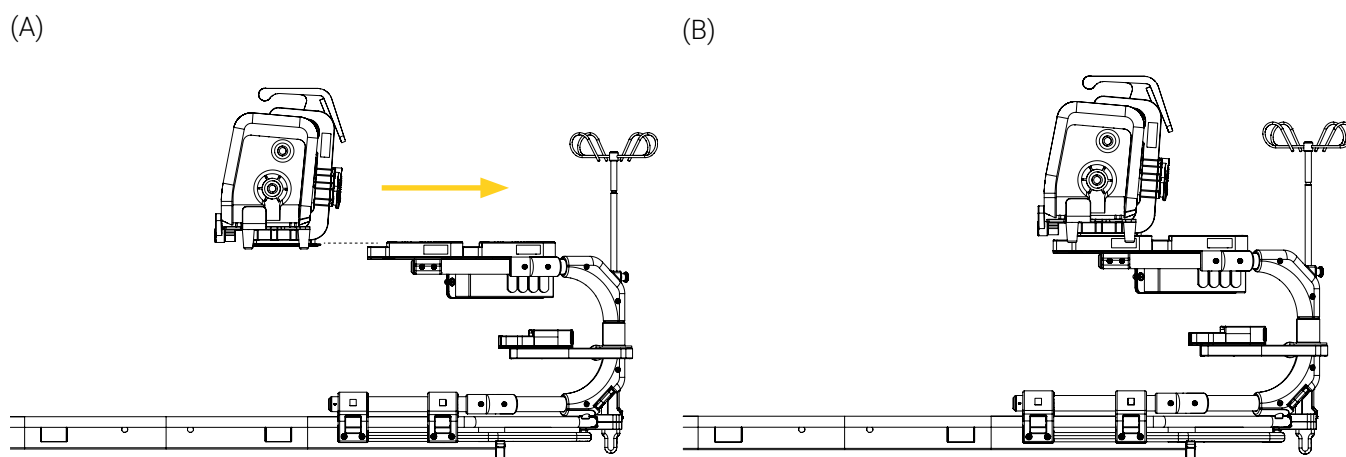
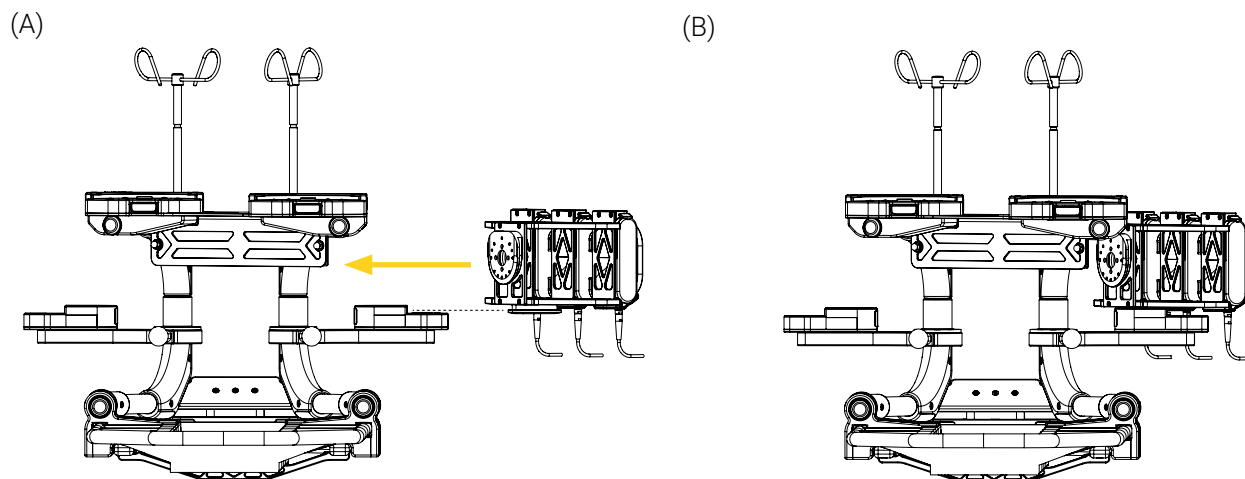

Figure 10: Installing a medical device on a Standard Surface Base
Figure 11: Installing a medical device on a Micro Base
1. Align and insert the Standard bottom disc under the support bracket in the Standard Surface Base (Figure 10) or micro disc in the Micro Base (Figure 11) horizontally, then push the bracket all the way back in the base until it is locked.